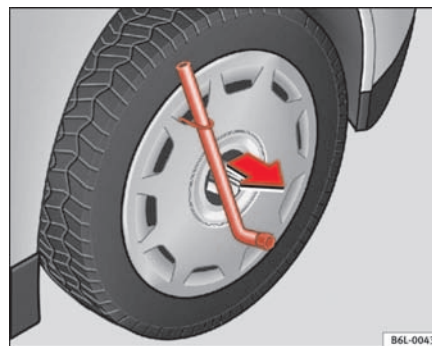

Fig. 132 Remove hub caps
- Remove the wheel cover using the wire hook ⇒ fig. 132.⁶⁾